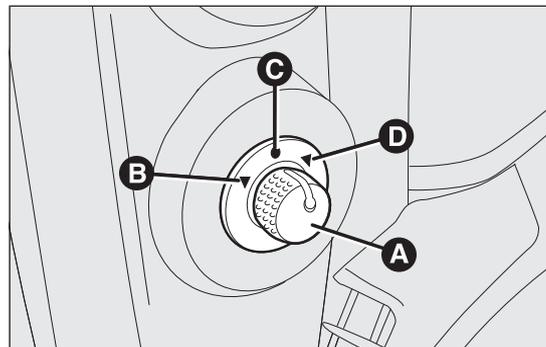

fig. 29
- select the required mirror with switch A fig. 29 (right or left);